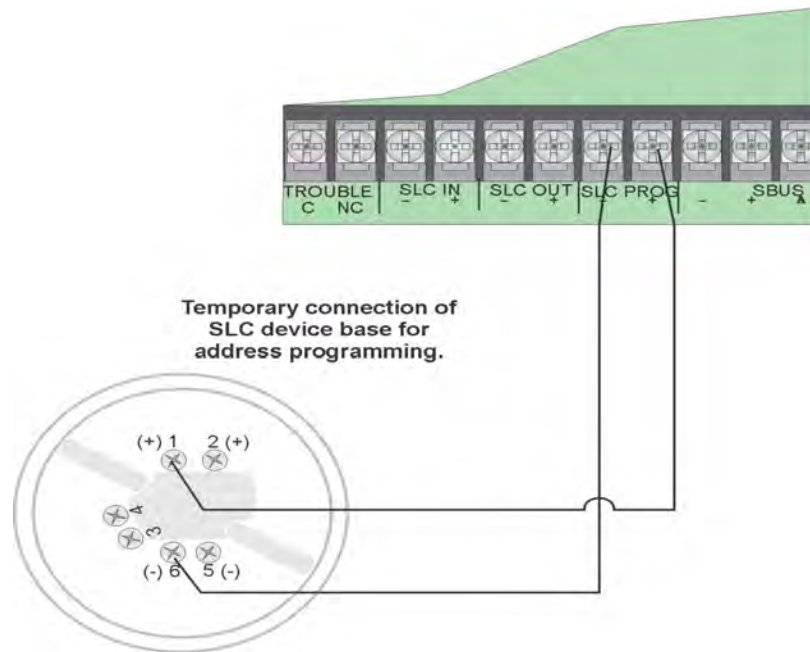

Figure 7.6 Temporary Connection of Detector Base to Panel for Addressing
1. Connect a detector base temporarily to the programming terminals as shown in Figure 7.6. (You can use the same base for each detector).